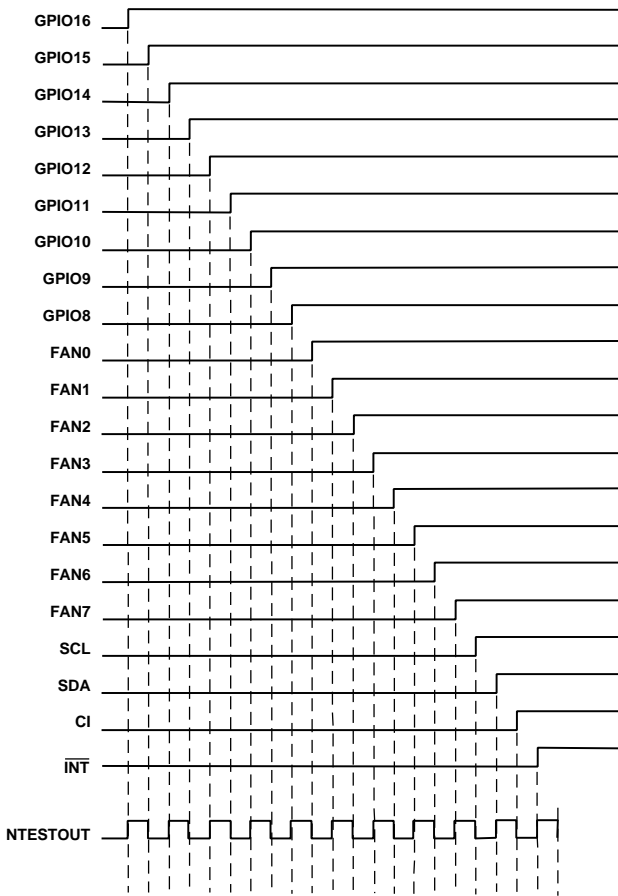

Figure 57. NAND Tree Test Taking Inputs High in Turn
1. Start with all inputs low and take them high in turn, starting with the input nearest to NTEST_OUT (GPIO16/ $\overline{\text{THERM}}$) and working back up the tree to the input furthest from NTESTOUT ($\overline{\text{INT}}$). This should give the characteristic output pattern shown in Figure 57, with NTESTOUT toggling each time an input is taken high.